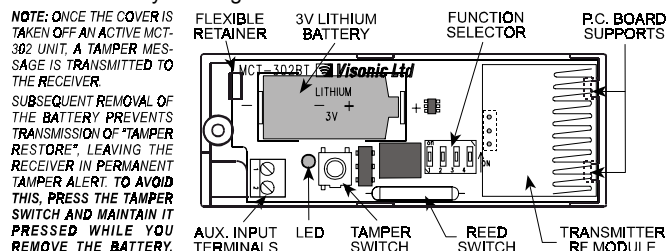

Figure 1. MCT-302T with Cover Removed
C. Flex out the circuit board retainer (Figures 1 and 5) and detach the circuit board from the base. **Take care not to break the glass of the reed switch at the side of the board!**